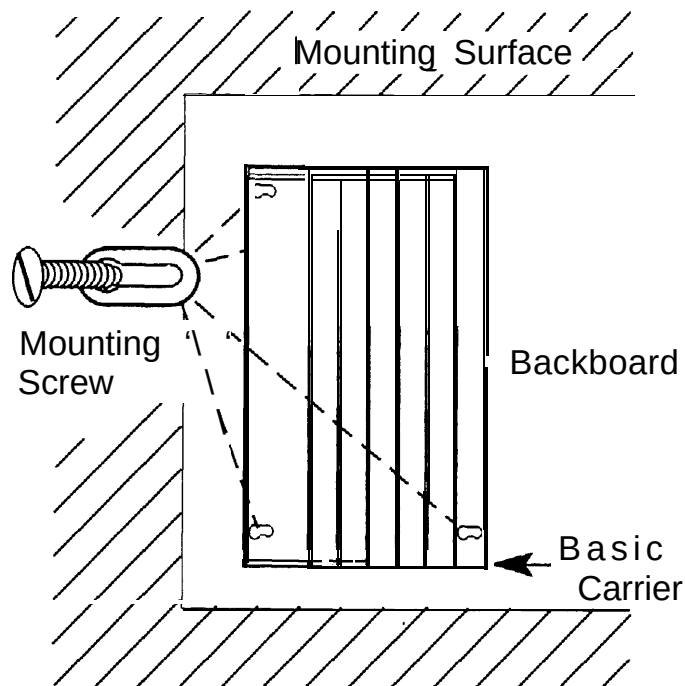

Figure 2-5. Marking the Basic Carrier Screw Holes
- 1 **Mark the screw-hole locations on the backboard, using the basic carrier or the template supplied with the plastic preassembled backboard as a guide. See Figure 2-5.**